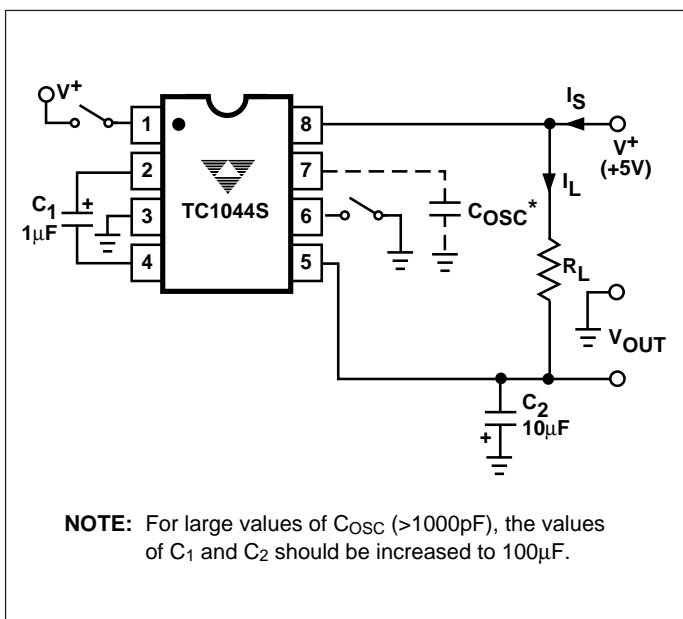

Figure 1. TC1044S Test Circuit
**ELECTRICAL CHARACTERISTICS:**  $T_A = +25^\circ\text{C}$ ,  $V^+ = 5V$ ,  $C_{OSC} = 0$ , Test Circuit (Figure 1), unless otherwise indicated.